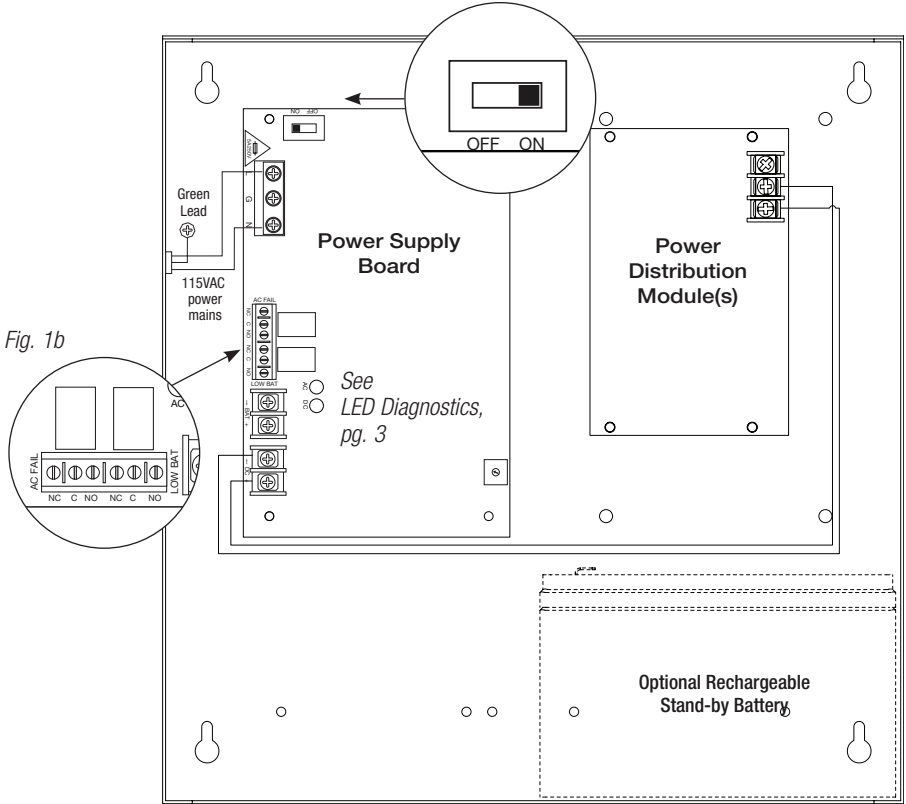

Fig. 1b
9. Connect appropriate signaling notification devices to AC Fail and Low Bat supervisory relay outputs marked [NC, C, NO] (Fig. 1b, pg. 4).